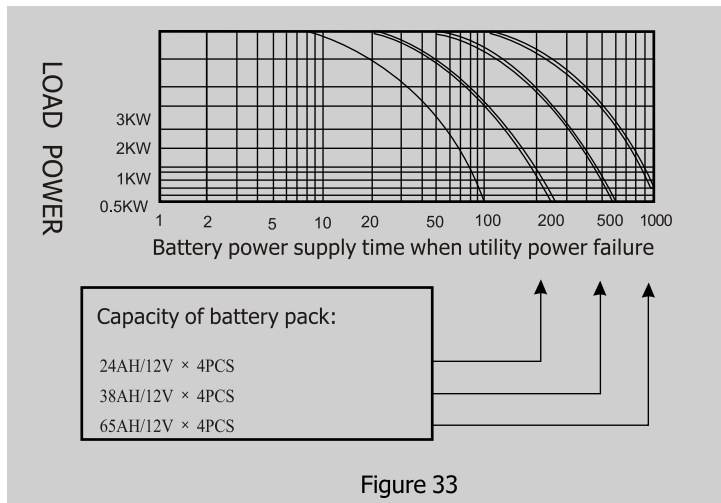

Figure 33
2. The time that battery supplies power has relation with using rate of load, please refer to figure 33.